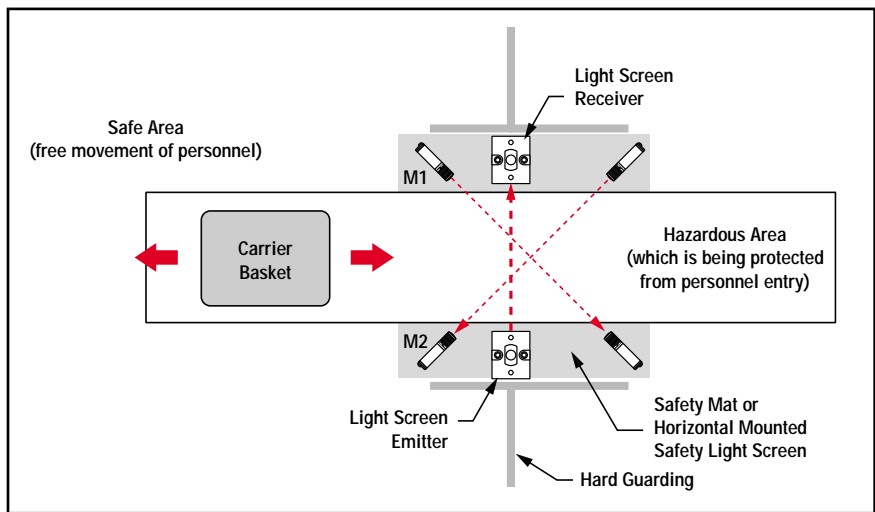

Figure C-1. “X”-Pattern Entry/Exit system using two pairs of opposed-mode photoelectric muting devices
- It must not be possible for an individual to block both photoelectric beams (dashed diagonal lines in Figure C-1) and initiate a mute condition. Check the installation to verify that unintentional muting is not possible. The “crossing point” of the photoelectric beams must be located in the hazardous area and not be accessible to personnel (by reaching over, under, through, or around).